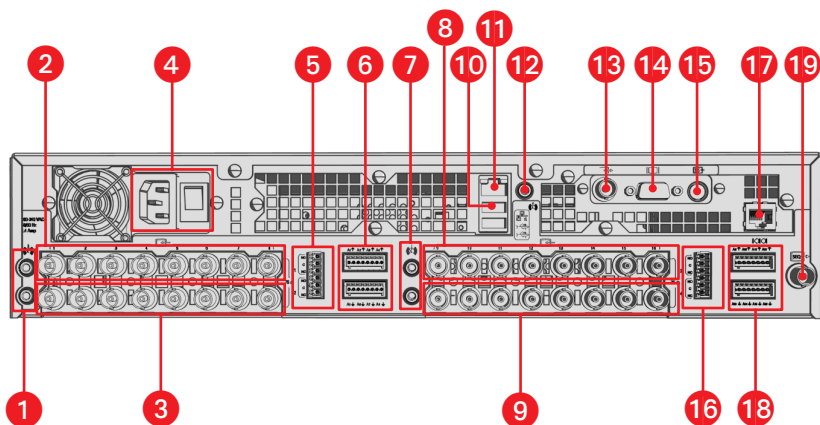

Figure 15. DVR5100 Rear Panel
2. Reattach any devices that you disconnected from the unit (refer to Figure 15).